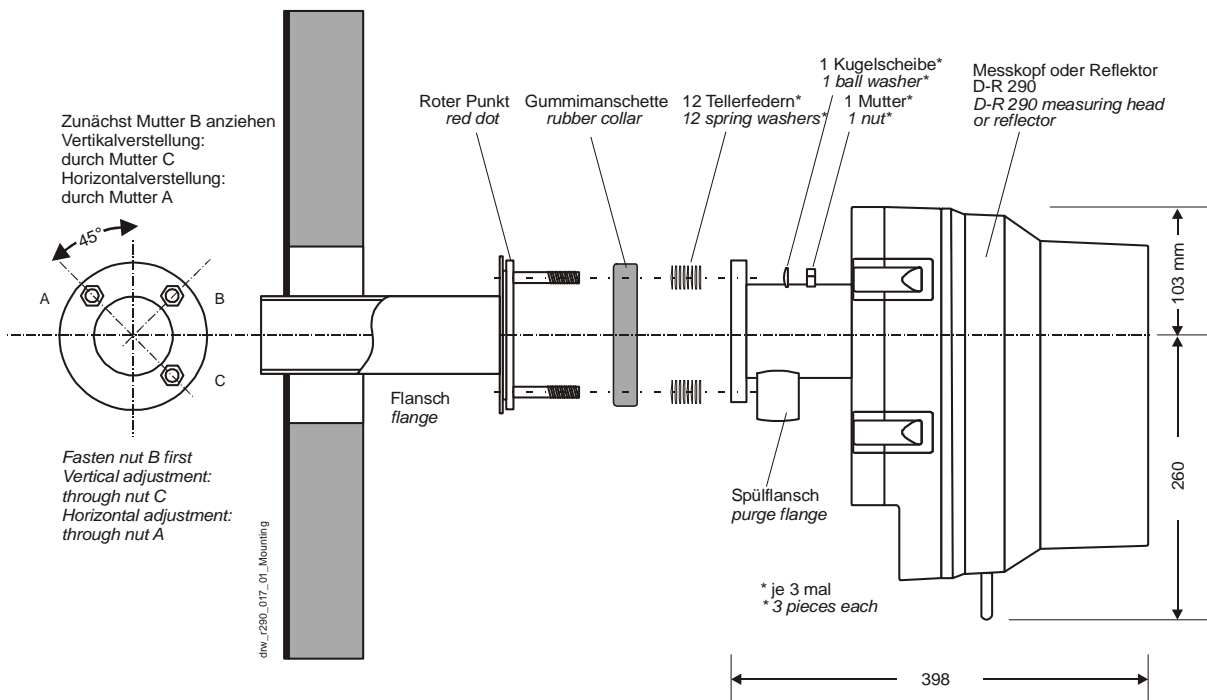

Fig. 7: Mounting on the alignment flange
2. If the measuring head and the reflector have been mounted like it is shown on Fig. 7.; the 3 nuts on the reflector flange can be tightened. First tighten the nut B on the measuring head.